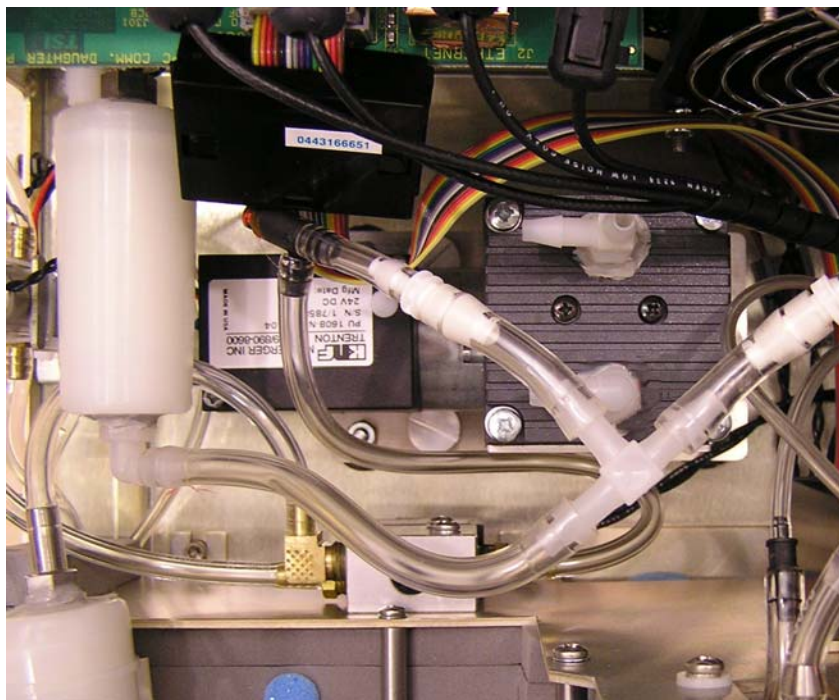

Figure 8-14
5. Use a polyethylene tee having $\frac{3}{16}$ " tube barbs to connect the tubes as shown in Figure 8-14.